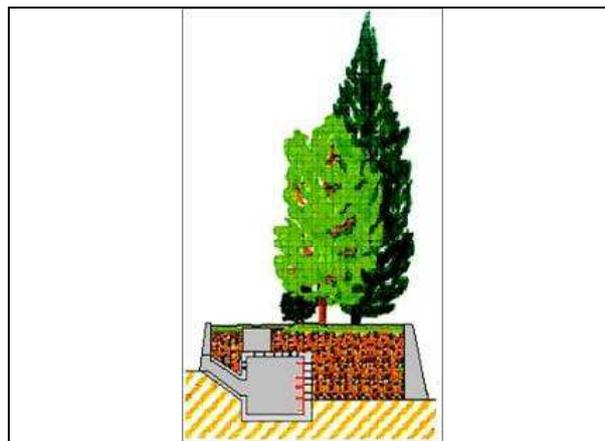

Fig.10
- Do you use false cutting (see Fig.10)?